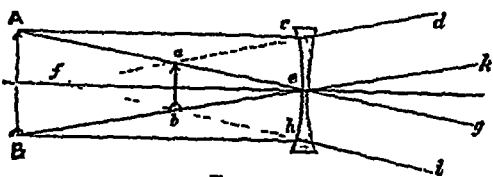

FIG 109
**Concave lenses**—The effect of a concave lens is to cause the rays to diverge after refraction The lens is thinnest in the middle, and we can imagine it made up of prisms with their apices towards the centre of the lens Parallel rays  $\Lambda c$ ,  $B h$  (fig 109), after